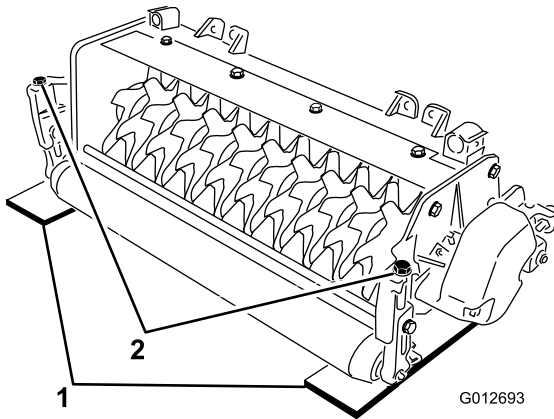

Figure 7
2. Place 2 gauge bars, which have the desired depth of blade penetration below the ground, under the front and rear rollers of the verticutter reel (on each end of the reel) (Figure 7).
3. Turn the adjusting bolt on each height-of-cut bracket (Figure 7) so that the reel blades come in contact with the level surface on both ends.